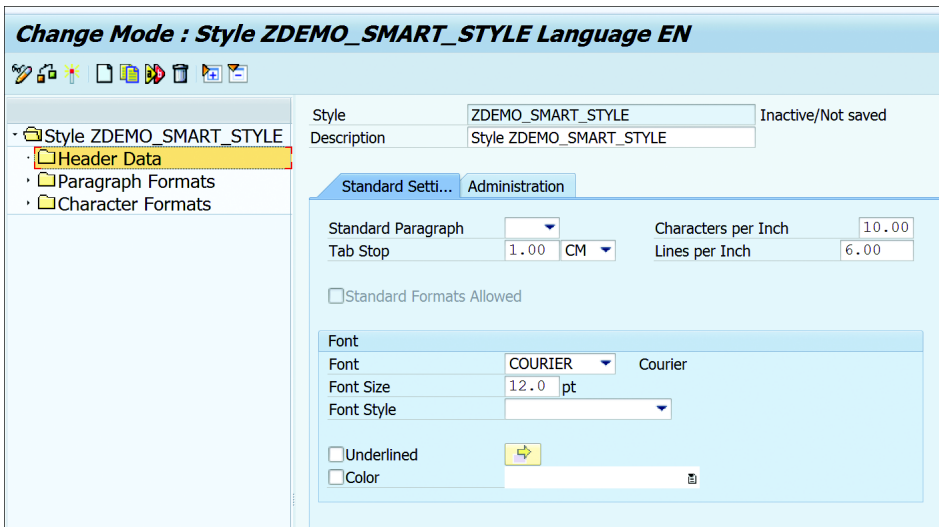

Figure 18.53 Style Change Screen
2. The style consists of three nodes: HEADER DATA, PARAGRAPH FORMATS, and CHARACTER FORMATS, as shown in Figure 18.53. In the header data, you maintain the default paragraph format and other settings that will be used as defaults if no paragraph format or character format is explicitly assigned to the text.